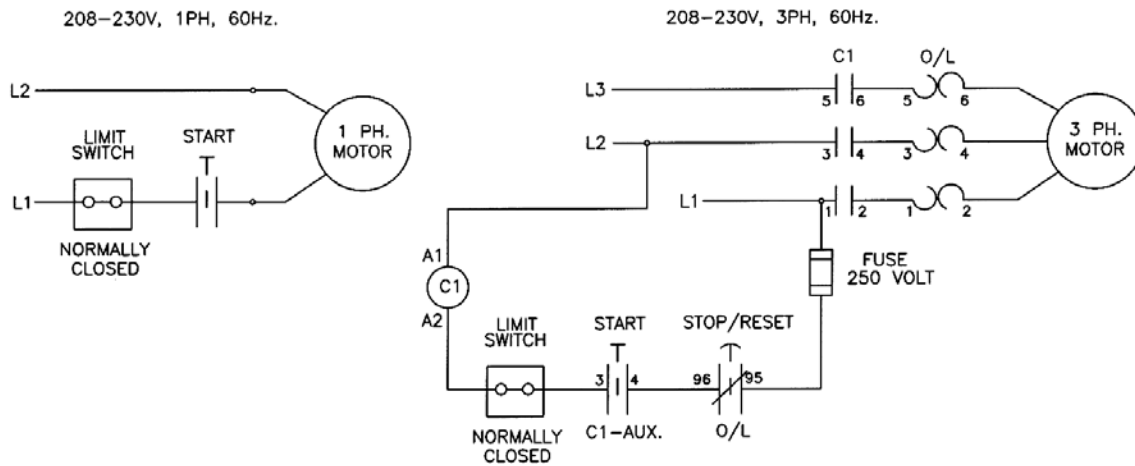

Figure 6 – Electrical Diagram
2. Bolt power pack to the mounting bracket on the power side tower using four (4) 5/16"-18UNC x 1"LG. hex head bolts, four (4) 5/16" ID lock washers, four (4) 5/16" ID flat washers and four (4) 5/16"-18UNC hex nuts (found in the hardware kit).
7. **Figure 6.**